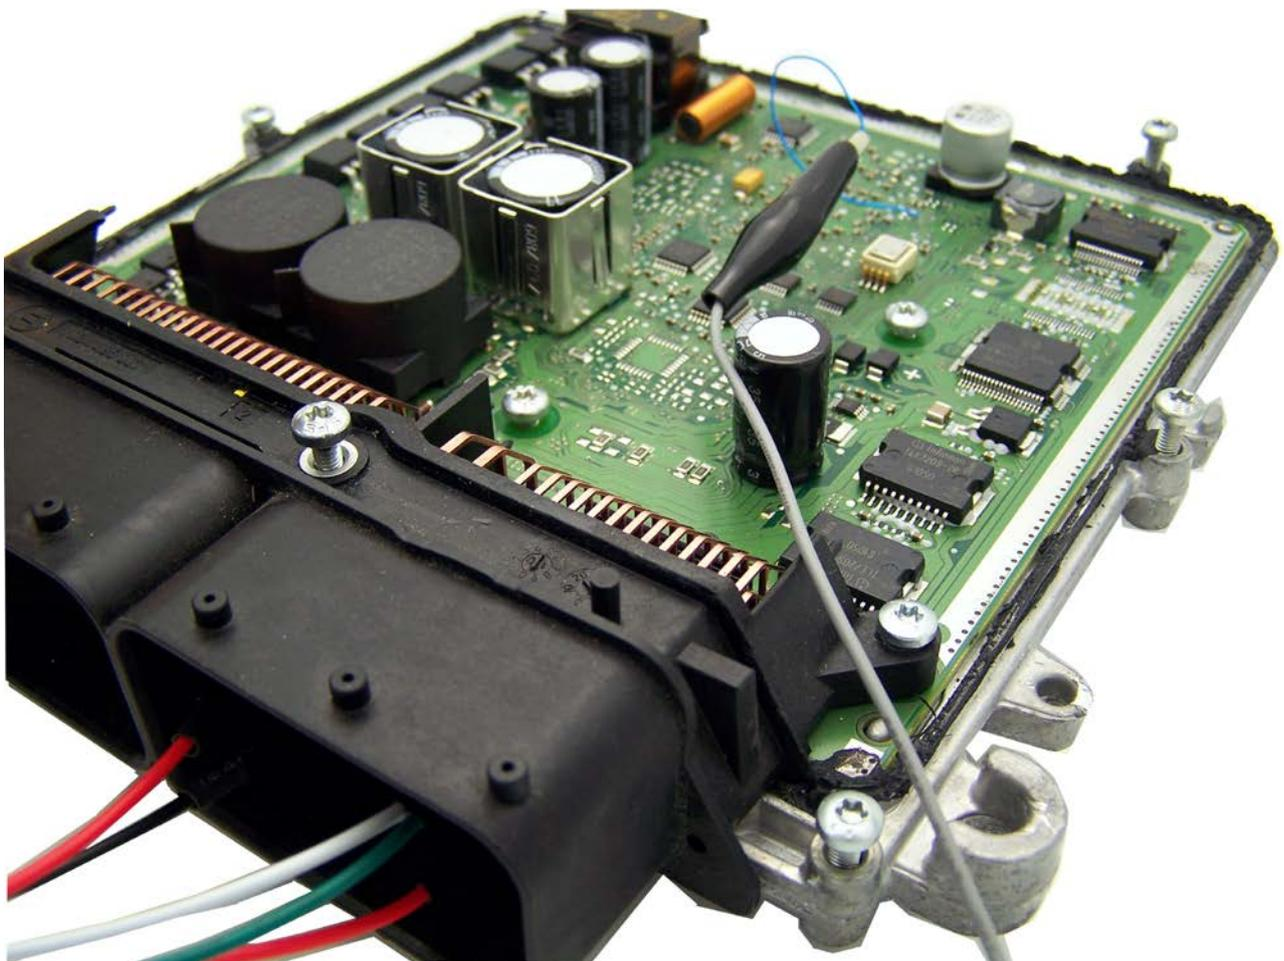

Figure 27 The DB15 Cable connections to Bosch EDC17 with the TC1796 MCU.
- Connect CAN, Boot and power pins of the 15 pin cable to the Bosch ECU (Figure 27).